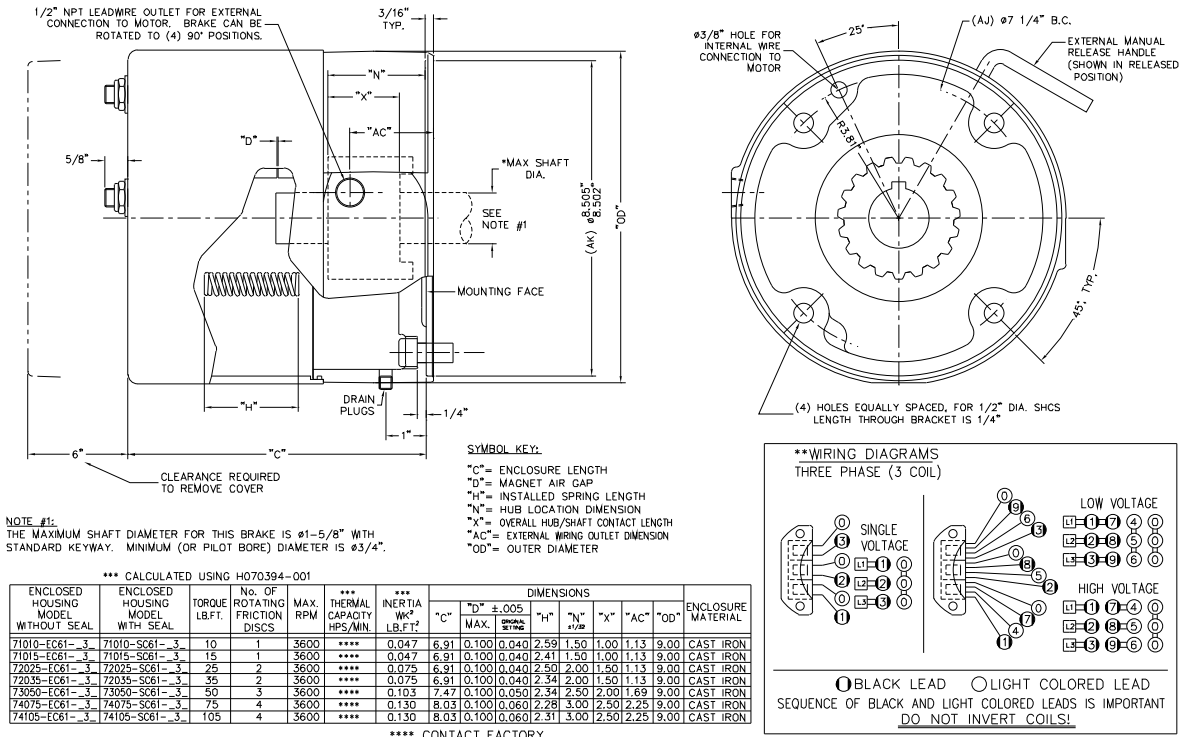

Figure.1 Brake Outline
(See Figures 1, & 2, Table 1)
1. Remove hub (99) from brake and position on motor shaft with key according to dimension "N" per figure 1. Stamped part number on hub should face away from motor. Tighten hub set screws with 13 lb.ft. torque.
2. Remove temporary cover nut and cover (67). Set cover aside. Discard temporary nut.
3. If brake is supplied with a mounting face gasket (91), place gasket onto the brake mounting face.
5. Bolt brake to motor "C" face with four socket head cap screws. See Figure 1 to help in determining proper bolt length. Final bolt thread pitch, length and mounting torque is dependent on the material and depth of the threaded holes in the mounting face.
6. Connect coil leads per appropriate wiring diagram in Figure 1 and replace cover (67).
7. Use provided sealing washers (70) and nylon locking nuts (71) to secure cover (67).